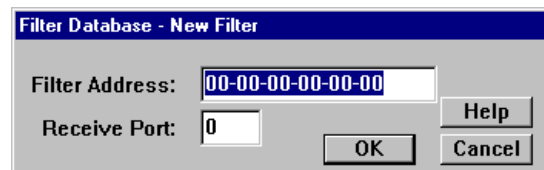

Figure 5-6. Filter Database – New Filter Window
1. Click on the **New** button in the lower left of the window. A window (Figure 5-6) will appear.